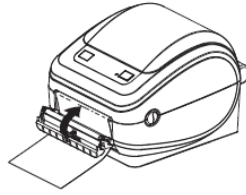

Figure 3.7.8 Close dispenser door.
- 4) Close the dispenser door (Figure 3.7.8).